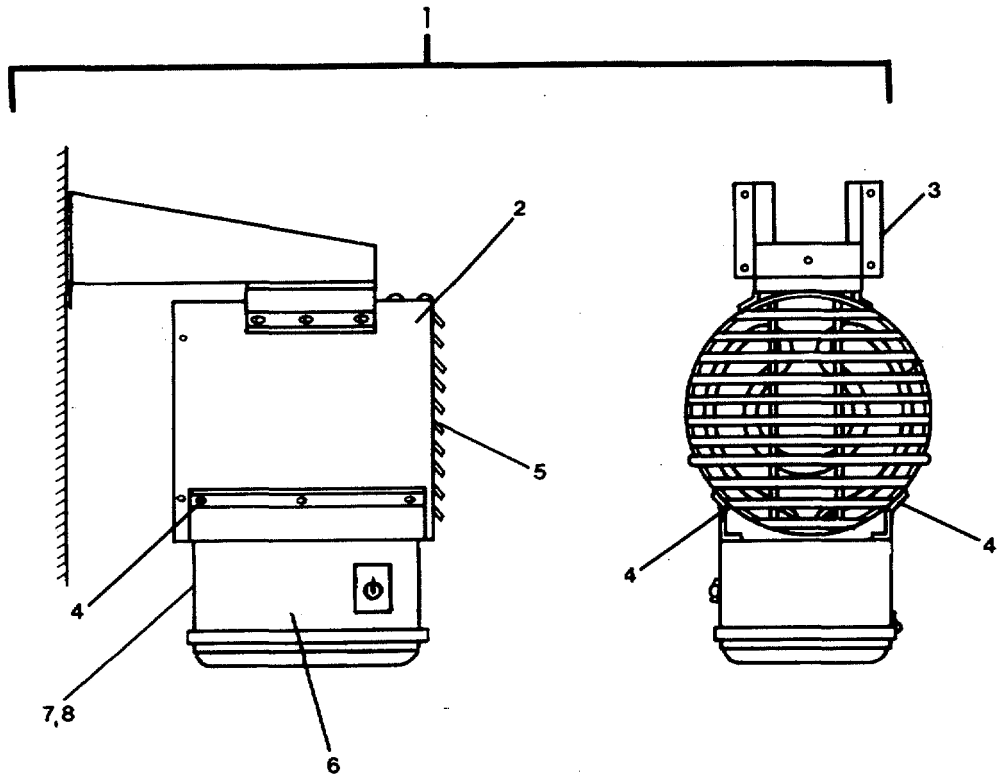

FIGURE 3-6. Unit Heater (UH #3, #5, #6, and #7).
- (1) Turn electrical power ON to heater (1).
- (2) Start and run heater to check operation.
- (3) Remove "Out of Service" tag from circuit.
**3-15. Repair Heater, Space, Electric (Units #3, #5, #6, and #7). (FIGURE 3-6)**